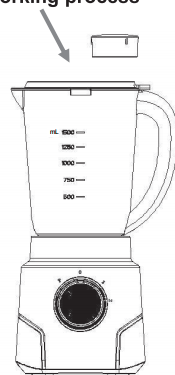

Fig.13
6. For fast or fragile mixing tasks, turn the control knob to the P position and hold for a few seconds, then release, the control knob will automatically return to the "0" position. Do this a few times until you get the effect you want. If you want to add food while the food processor is working, please open the measuring cup and put the food into it through the feeding port of the cup lid (as shown in Fig 13).